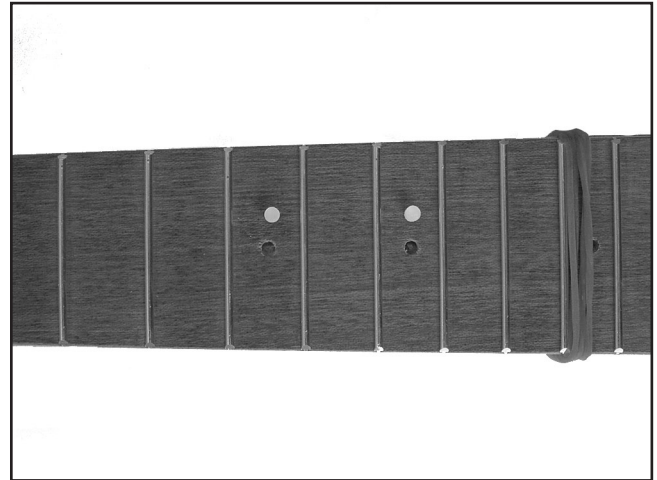

Figure 8. Holes drilled larger for position dots.
1. Drill holes slightly larger than the position dots into the pre-drilled holes in the fingerboard, making sure the dots will fit into the holes snugly (see **Figure 8**).